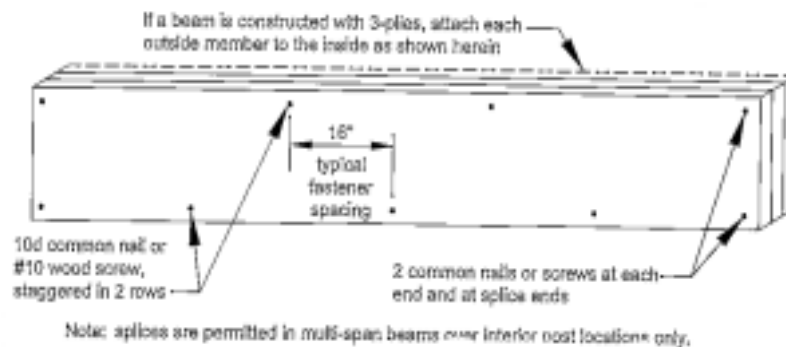

FIGURE 6: BEAM ASSEMBLY DETAIL
- Beams shall be assembled in accordance with Figure 6.